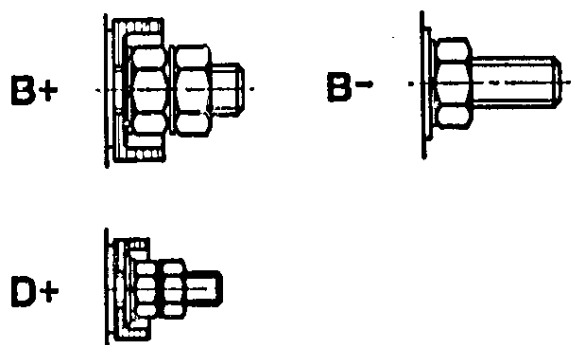

Figure 33 Terminal B+, B- and D+ Assembly
5. Install the insulating washer, flat washer and nut to terminal studs B+ and D+. (Figure 33)
6. Install flat washer and nut onto terminal stud B-. (Figure 33)